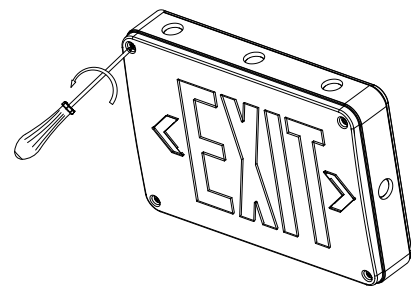

Fig 1
1. Open front cover by screwdriver (see Fig 1).